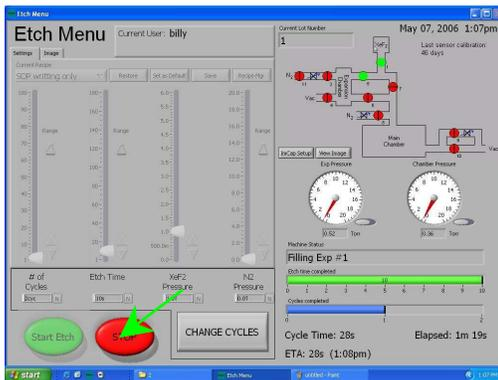

Figure 2.23
17. To change other parameters while etching, terminate the process by clicking “STOP” (Figure 2.23). Note that the machine will stop only after the current etching cycle is finished. Then, start from step 7 again once “Main menu “is prompted.